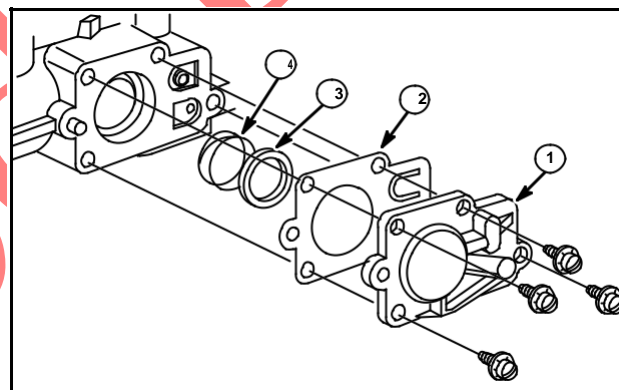

Fig. 31
1. Remove fuel pump cover (1), diaphragm (2), spring (4), and cup (3), Fig. 31.